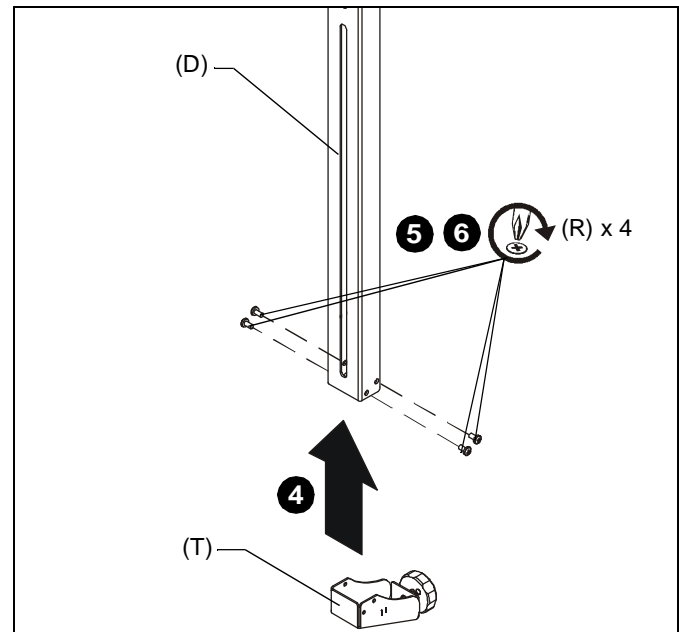

Figure 3
5. Attach lower support (T) to bottom of upright assembly (D) using four #8 x 1/2" Phillips screws (R). (See Figure 3)